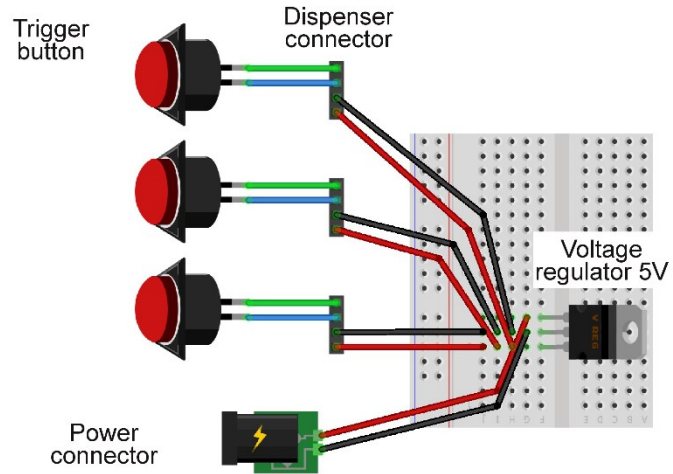

Figure 10: Schematic of connections within the control
4. Assemble the bread board with the linear voltage regulator as specified (Figure 10). Make sure all the connections are placed in the correct position, paying attention to the voltage regulator hookup.